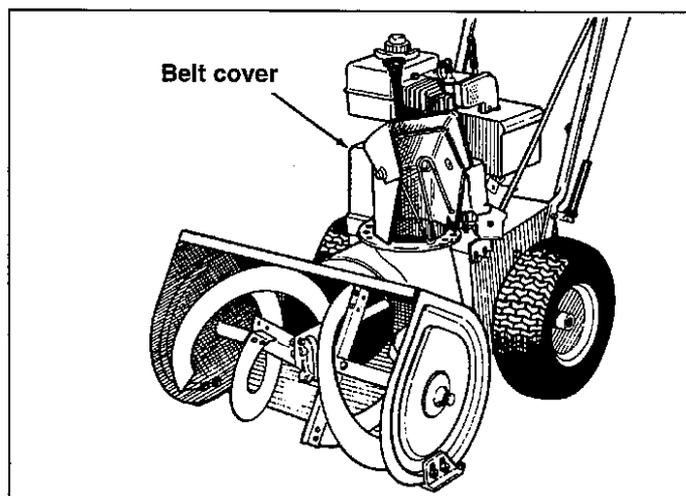
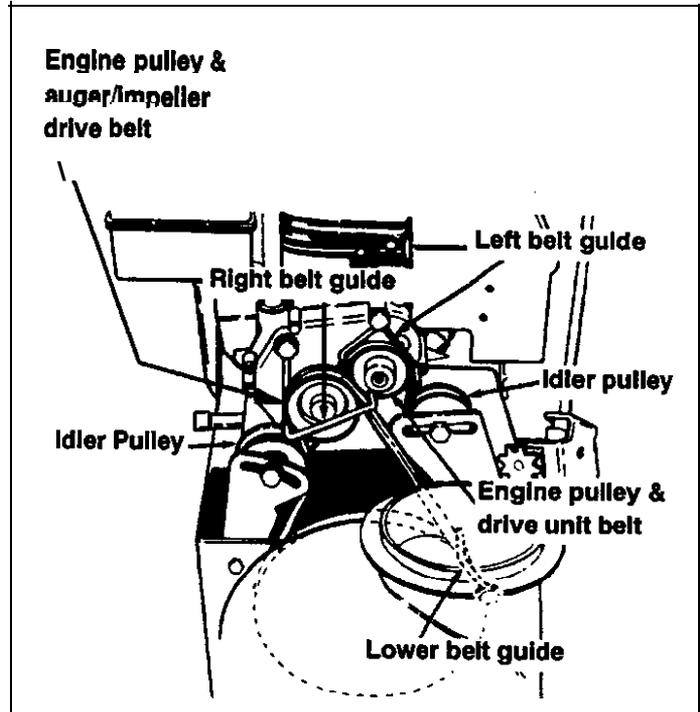

Figure 10. Drive Belt Cover
Figure 11. Drive Belts and Pulleys - Belt Cover Off
The snowthrower is equipped with two drive belts located just in front of the engine under the belt cover (figure 10). Figure 11 shows both belts and idler pulleys. The belt nearest the engine is the unit drive (wheels) belt. The belt farthest from the engine is the auger/impeller drive belt.
1. Remove the belt cover (figure 10). Determine which belt requires adjustment.
2. Loosen the locknut on the appropriate idler pulley and move the idler pulley $1/4"$ toward the belt (figure 11). Tighten the locknut.
1. Remove the belt cover (figure 10).
3. Loosen the screw securing the belt guide (figure 11). Adjust the guide so it clears the belt by $1/16"$ - $1/8"$. The clearance should be equal on both side of the pulley. Tighten the screw securely.
3. Remove belt cover (figure 10).
4. Loosen the screw securing the belt guide (figure 11). Pivot the belt guide as necessary and remove the drive belt from the pulley.